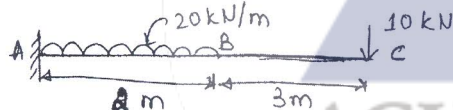

Fig.Q3(b)
b. Draw shear force diagram (SFD) and bending moment diagram (BMD) for given beam in Fig.Q3(b). (14 Marks)